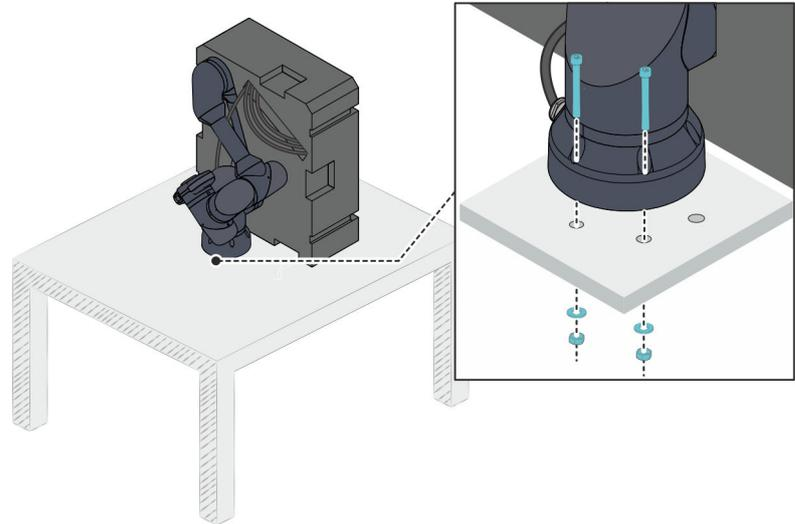

Fig. 96 Undoing the threaded connections (part 2)
06. Use the socket wrench to loosen the two remaining lock nuts (M8) on the underside of the table counter-clockwise Fig. 96.
07. Remove the corresponding two washers and bolts from the robot base Fig. 96.